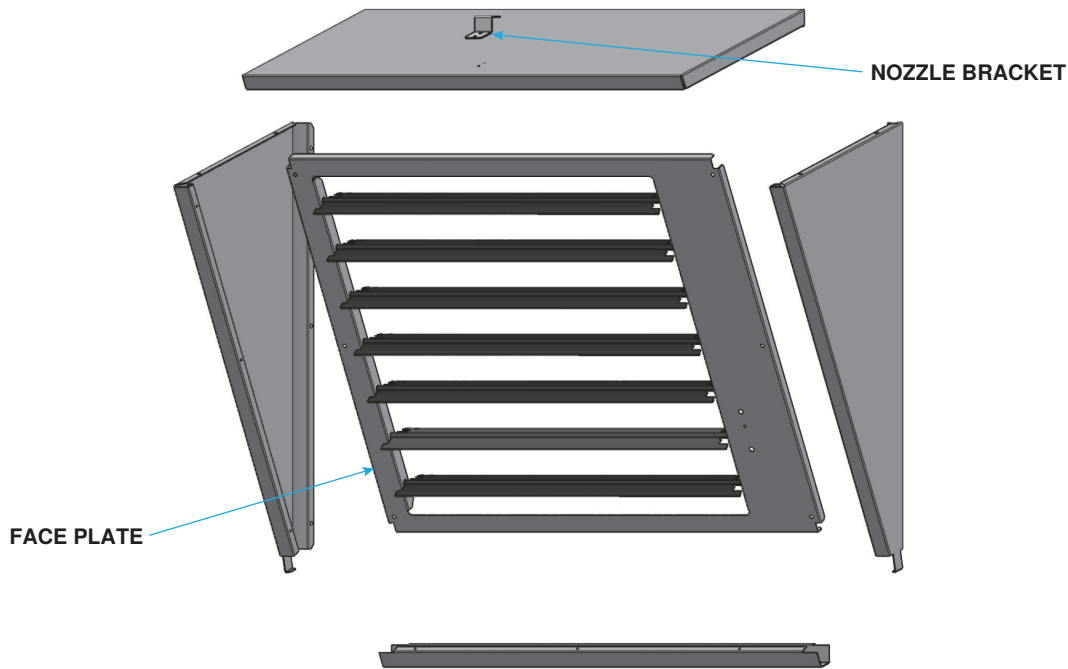

Figure 5. Hydronic Unit Heater Downturn Nozzle Assembly
3. Assemble downturn nozzle assembly (see Figure 5):
- a. Position frame against recessed black face plate on nozzle (see Figure 5).
a. Position nozzle bracket on first nozzle as shown in Figure 5 and secure bracket using screws from kit.